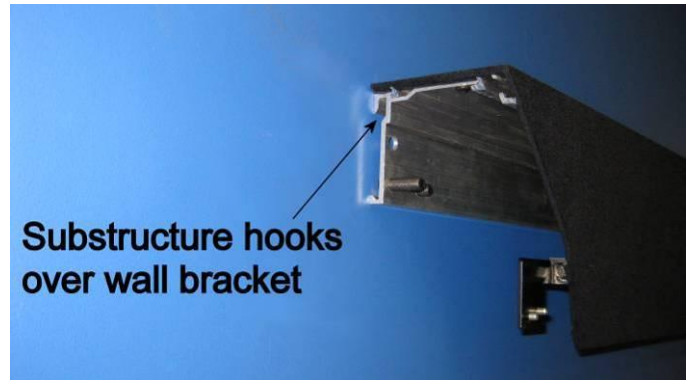

Figure 8
Step 10 - Hang Top Structure [part A] on wall bracket (Figure 8). The top structure is the long piece with pulleys and cables but WITHOUT logos. Do not tilt the structure out while trying to hook it over the wall bracket. Keep the back of the structure parallel with the wall and drop it straight down over the bracket. Center the Top Structure horizontally over your projection screen and ensure that it is parallel with the screen-frame.